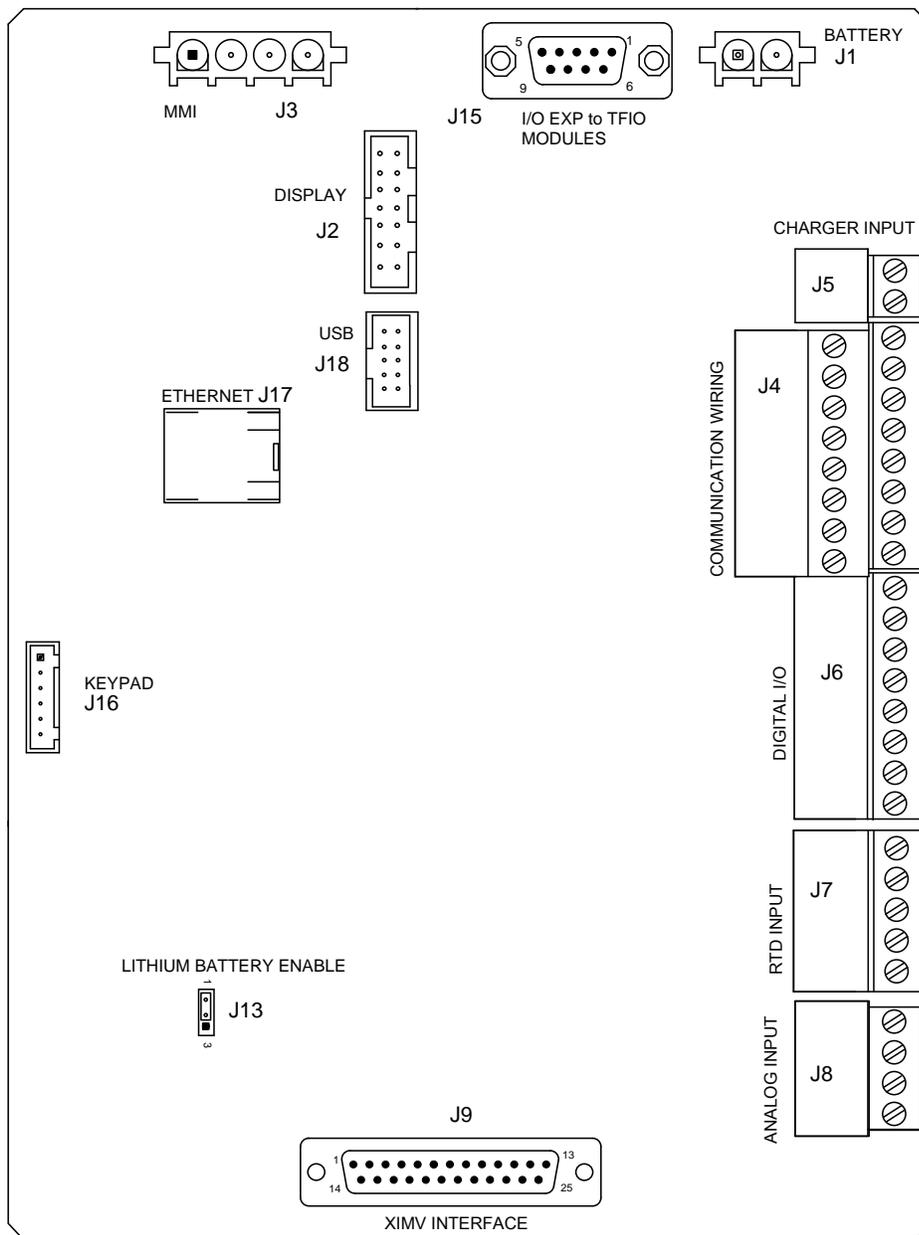

Figure 89: XFC^{G4} Removable Board Connections for Maintenance
7. Disconnect the battery charger from terminals EXT CHGR +/- J5 (Figure 89, *XFCG4 Removable Board Connections for Maintenance*, page 119).
9. Disconnect the communication connector(s) J3, J18 or J15 (Figure 89).
11. Disconnect the XFC^{G4} LCD port connector J2 (Figure 89).
12. Slide, to the right, green terminal strips J4, J6, J7, and J8 (Figure 89) from their associated flow computer panel Connector.
13. Remove the cable from J15 (Figure 89). If optional TFIO modules are installed.
14. Remove the cable from J16 (Figure 89). If the unit has the optional keypad.
9. Disconnect the LCD port connector J2 (Figure 89).
10. Disconnect the communication connector(s) J3, J15 or J18 (Figure 89).
11. Disconnect the XIMV Port connector J9 (Figure 89).
12. Slide, to the right, green terminal strips J4, J6, J7, and J8 (Figure 89) from their associated connector. Do not lift connectors upward. Pay particular attention to the J4 and J6 connectors and label if necessary to ensure correct installation when the replacement panel is in place.
13. Remove the cable from J15, if TFIO modules are installed (Figure 89).
14. Remove the cable from J16, if the flow computer has the installed optional keypad (Figure 89).
22. Reconnect the LCD port connector J2 (Figure 89).
23. Reconnect the battery cable to connector J1 (Figure 89).
24. Reconnect the battery charger to EXT CHGR +/- J5 (Figure 89).
5. Ensure the J13 (Figure 89) memory backup jumper covers the top two pins.
8. Disconnect the battery charger from terminals EXT CHGR +/- J5 (Figure 89).
9. Disconnect the Battery Cable from connector J1 (Figure 89).
14. Disconnect the XIMV cable J9 (Figure 89) from the panel.